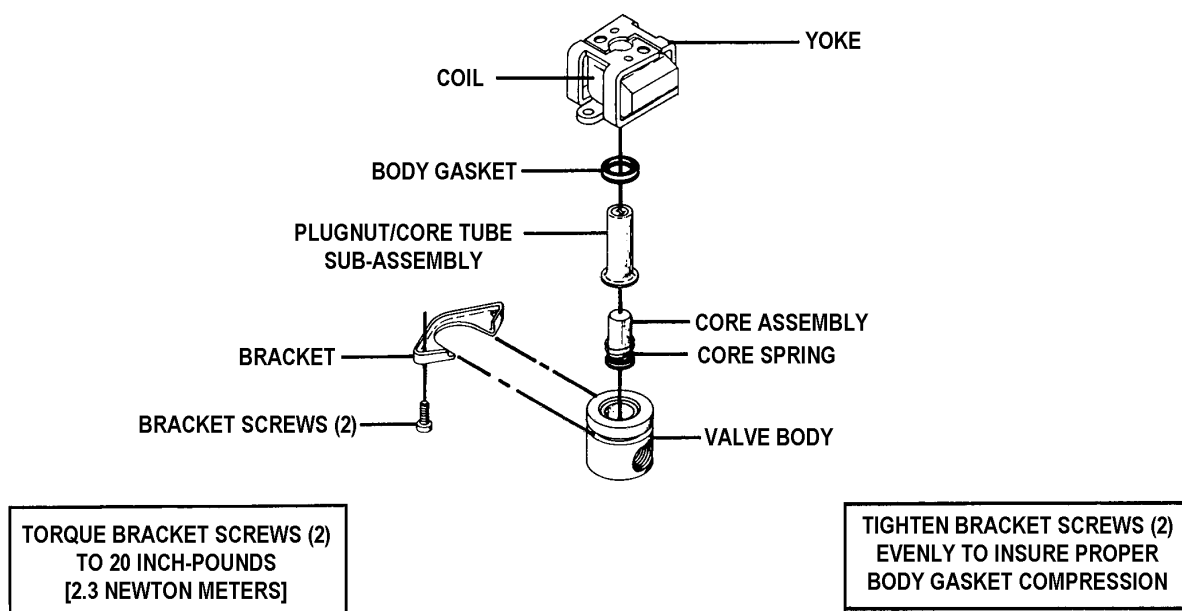

Figure 6-2 Gas Valve Assembly
See Figure 6-2 for details.
3. Remove the (2) bracket screws and bracket from the yoke of the gas valve.
8. Reassemble the gas valve in reverse order of disassembly paying careful attention to Figure 6-2.